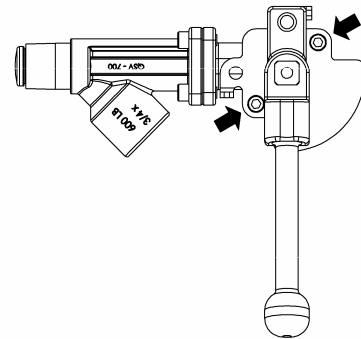

Figure 2 Changing Actuator Position.
Removing three (3) socket hex head machine screws (See Figure 2) can change the mounting position of the handle.